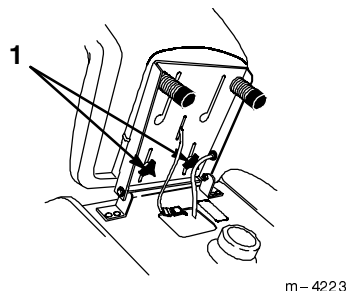

Figure 15
1. Raise the seat and loosen the adjustment knobs (Fig. 15).